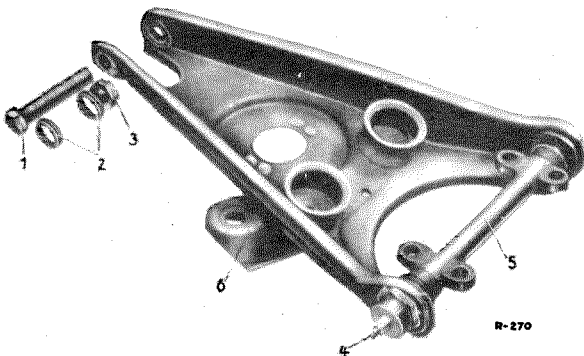

Fig. 33 — 4/1
3. Pull the cotter pin out of the threaded pin (2) at the lower control arm and remove the castle nut (3). Remove the threaded pin (1) and take off the two rubber sealing rings (2) (Fig. 33 — 4/1).